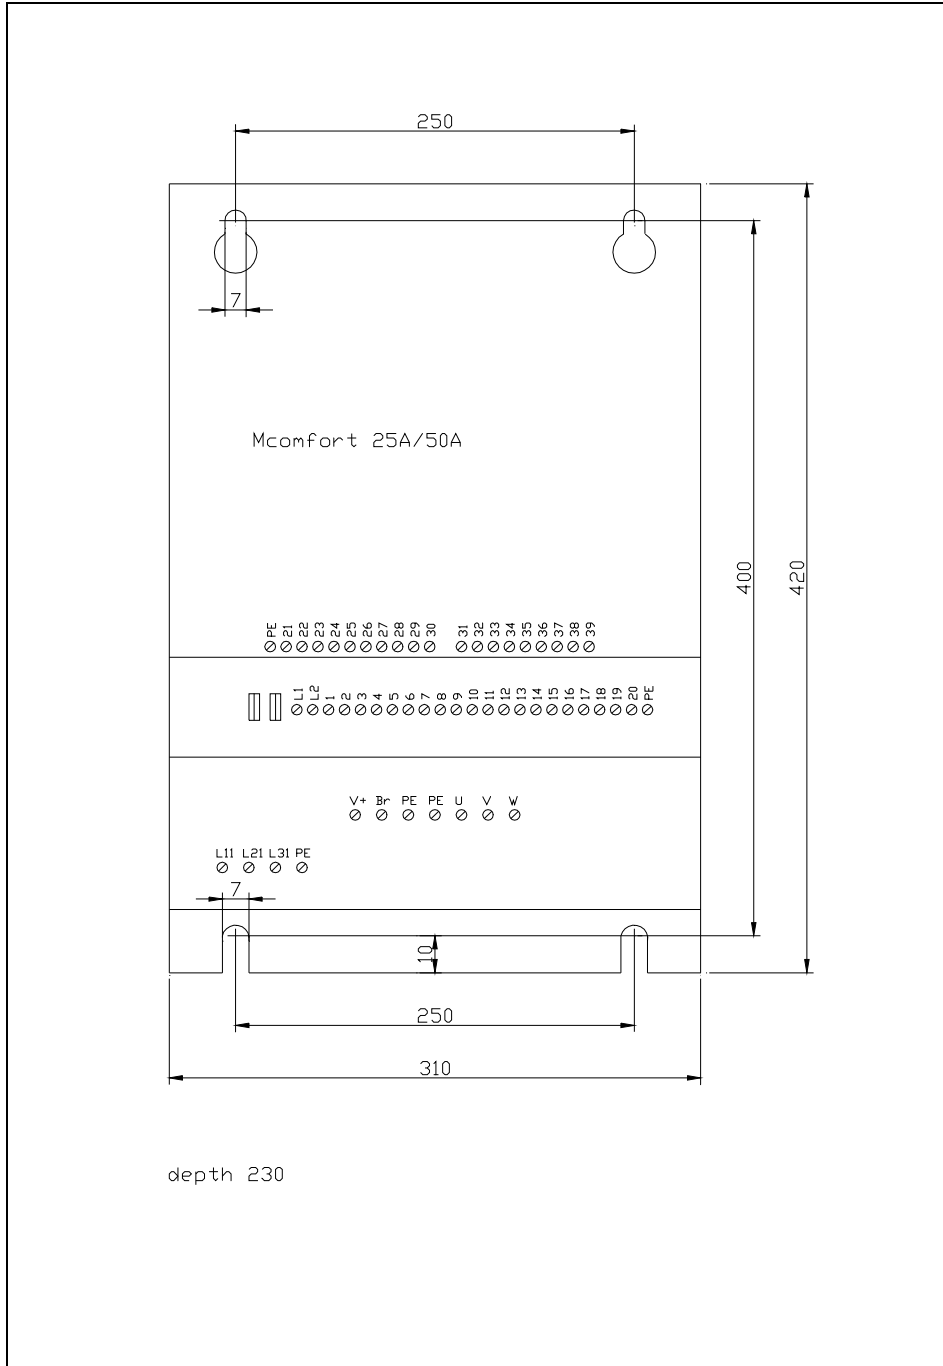

Figure 3: Dimension drawing for units with 25A to 50A rated current
- The controllers are available in the sizes given below (see Figure 3). Higher power classes on request.
- ! Controllers of the Mcomfort series are designed for vertical installation in cabinets or machine frames. They must be fitted with their terminal strips and connecting bars to the bottom. See Figure 3 and 4 for dimensions.